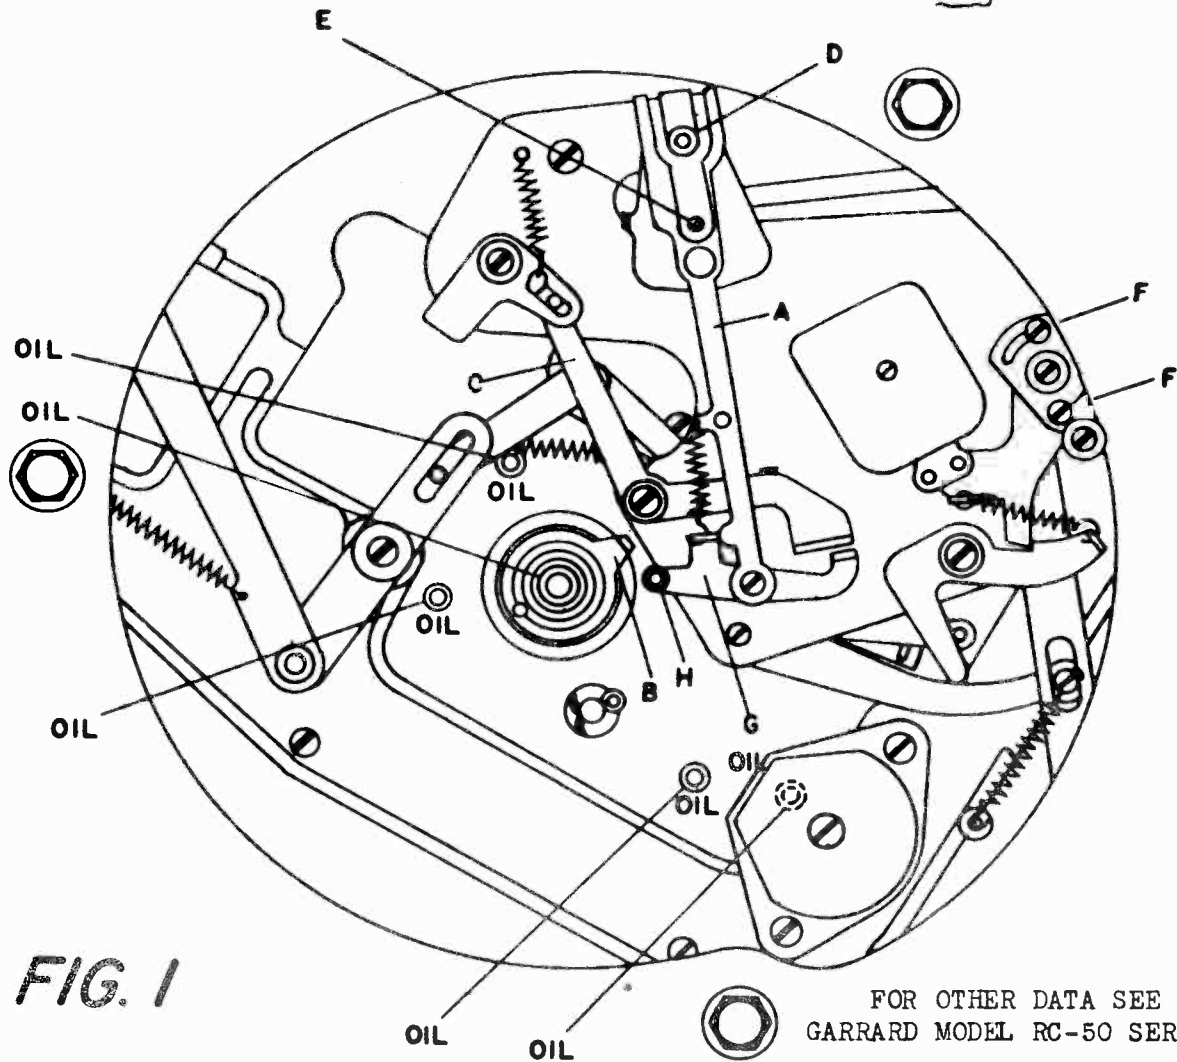

FIG. 1
The motor should always be well lubricated, as noise will develop if the bearings are allowed to run dry. All bearings are of the oil-retaining type, and with average use, will require lubrication about once every three months. All oiling holes are accessible when the turntable is lifted from the motor spindle and are indicated on Fig. 1.
If the first record does not drop when the changer is switched ON, this is due to the leather brake pad becoming worn and not breaking the turntable sufficiently when the previous record was completed. To adjust this pad, loosen the two screws "P" Fig. 1, and turn the brake lever slightly to bring the leather pad nearer to the turntable rim. Tighten the screws and check to see that the switch breaks contact before the leather brake pad touches the turntable rim.
*See Fig. 1